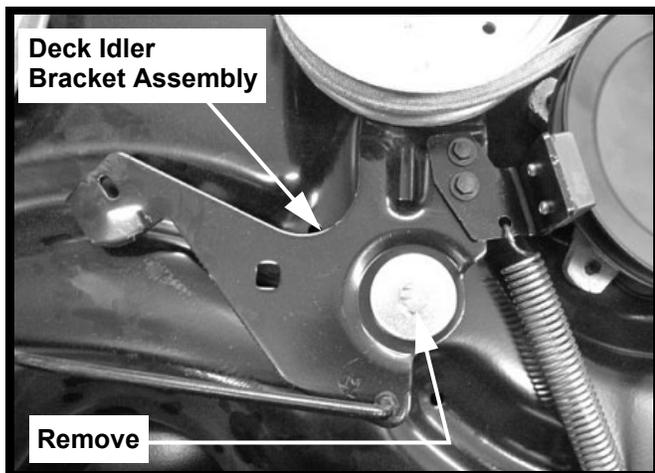

FIGURE 4
7. Remove and retain the hardware that secures the deck idler bracket assembly with flat idler pulley. See Figure 4.